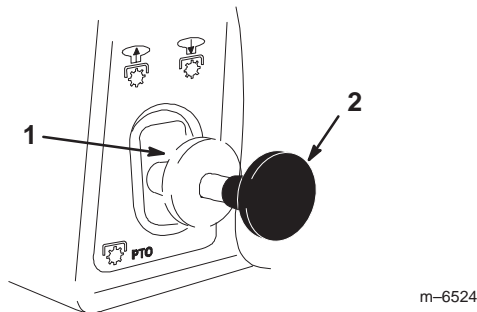

Figure 6
1. Pull the power take off (PTO) to **on** (Fig. 6).
1. Push the power take off (PTO) to off (Fig. 6).